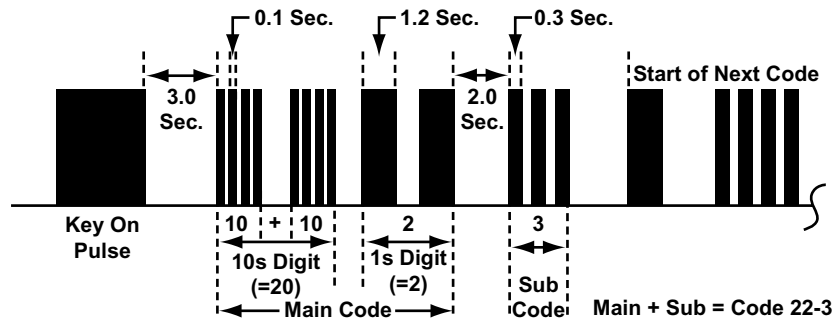

Figure 8-37 *Honda SRS Code Type 06*
- Type 06, see Figure 8-37 and Table 8-12 on page 82